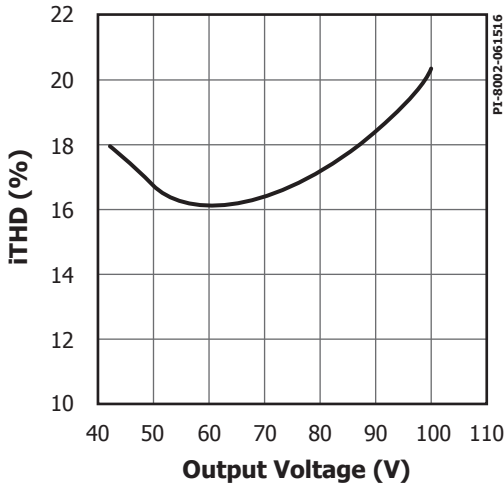

Figure 22. iTHD at 230 VAC vs. Output Voltage.
- Output Voltage – Figure 22 shows how the THD changes with output voltage. The absolute minimum may vary depending on power, but in general, the lowest THD at 230 VAC can be achieved if the output voltage is between 50 V and 80 V.